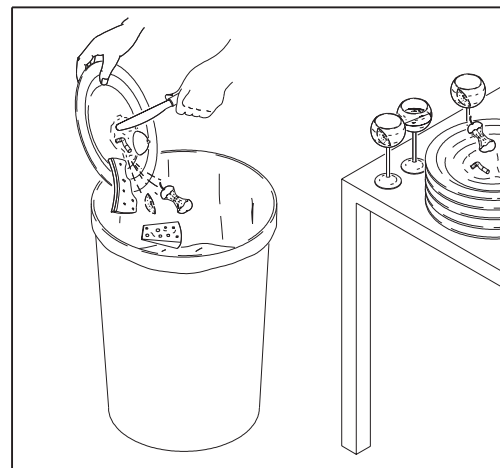

Fig. 13
- Remove any food remaining from the dishes before washing them in the dishwasher (fig. 13)